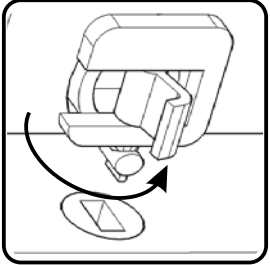

Figure 1
Attach Back Panel (H) to Base (E), then flip Locks. (See Figures 1 and 2)